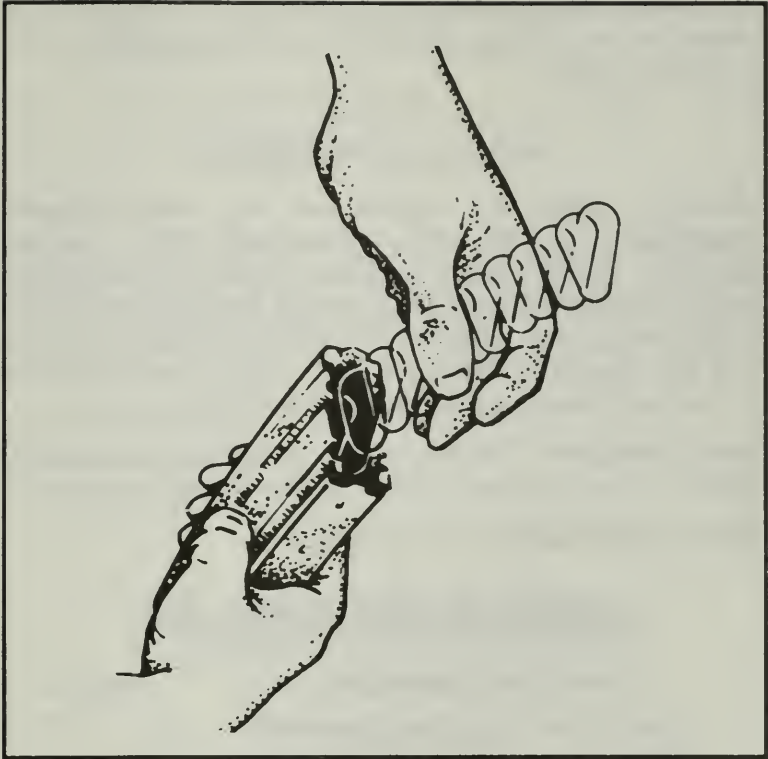

Figure 89. Removing the magazine spring and the follower.
- c. To remove the spring and follower, jiggle spring and follower (Figure 89.)